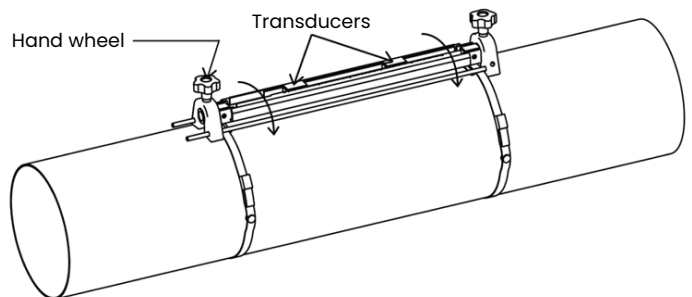

Figure 12: Transducers rotated into view
- a. Loosen both transducers and rotate the fixture so that the transducers are in view (see figure 12 below).
- a. Rotate the fixture so that the transducers are in view (see figure 12 on page 12).